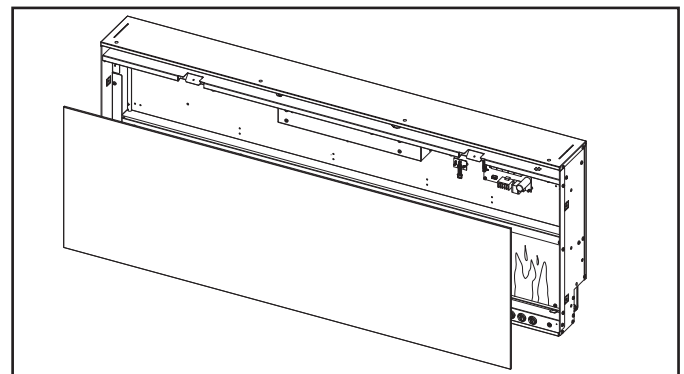

Figure 14 Glass Screen Panel Removal
3. Carefully remove the Glass Screen Panel. Rotate the top edge of the glass panel towards the opening, then lift out the the glass panel from the appliance. Set glass panel aside in a safe location, preferably a soft surface such as carpet or cardboard. See Figure 14.